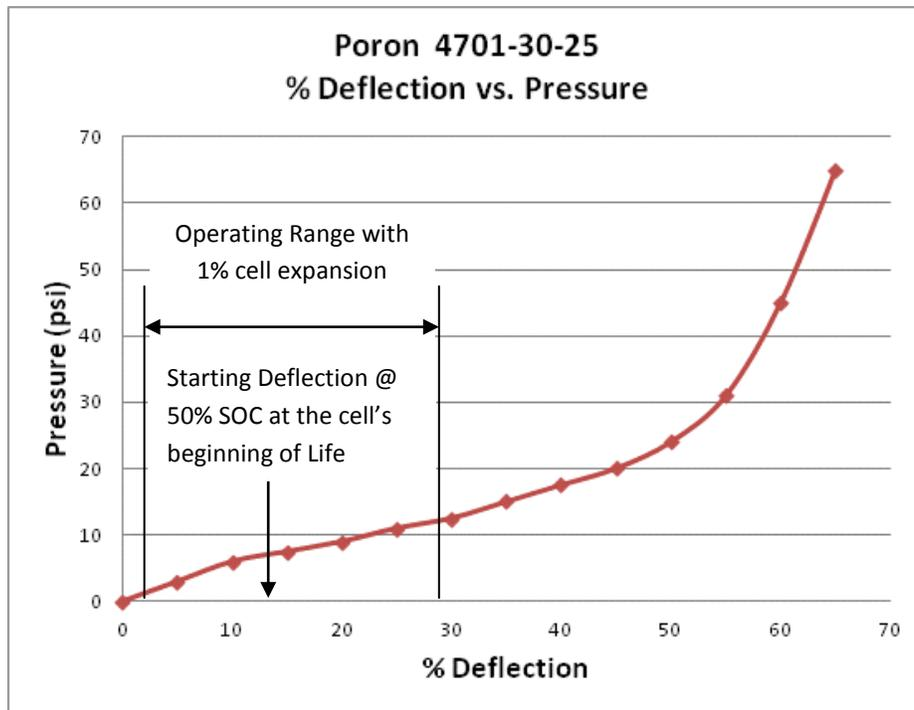

Figure 9 – Graph of the pressure vs. deflection of an example compliant pad for AMP20 Cells
To maintain proper cell support and account for expansion during the charge and discharge cycles, A123 uses a compliant pad between cells. The compliant separator is chosen to maintain the pressure range of 4 – 18 psi against the cell's surface. By way of example, Figure 9 shows how much pressure is exerted by a 1.19 mm compliant pad of a certain durometer which may be used between the AMP20 cells. Using this chart, one can choose the initial deflection (16%) such that the regular expansion of the cell during its cycling keeps the pressure between 4 and 18 psi.
**NOTE:** In that each pack design will be different, the deflection parameters need to be calculated independently for each. The data shown in Figure 9 is just an example of one particular compliant pad.